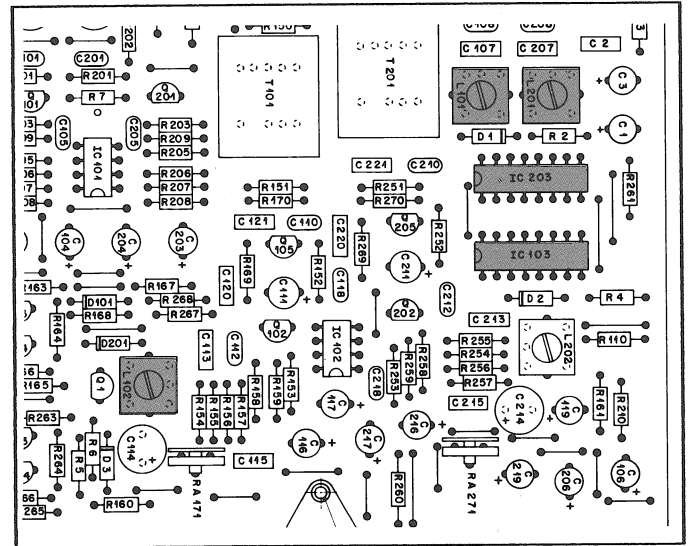

Fig. 13
- With L101 (CH1) or L201 (CH2) adjust to minimum RF on the oscilloscope (Fig. 13).